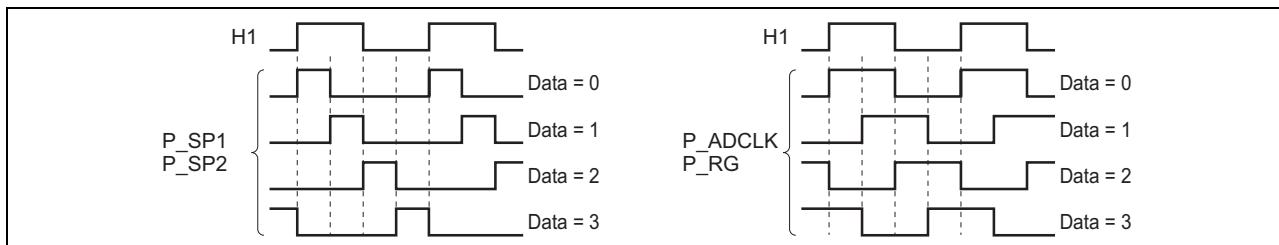

Figure 13 2 Divided Mode, 1/4 Phase Select (Valid at D15 = 0 of address H'F8)
(1) Select the 1/4 phase from figure 13 at 2 divided mode (D15 = 0 of address H'F8).